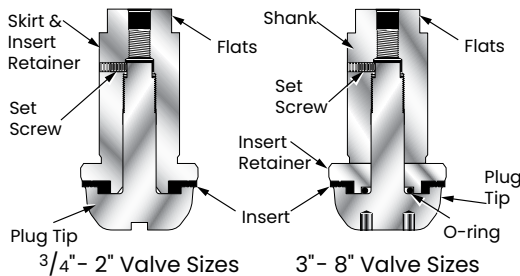

Figure 3 – Soft Seat Plugs (Optional)
7.7 Soft Seat Plug (Figure 3)
- a. Place new insert on shank and insert retainer as shown in Figure 3.
- b. Install new insert on insert retainer and assemble as shown in Figure 3.